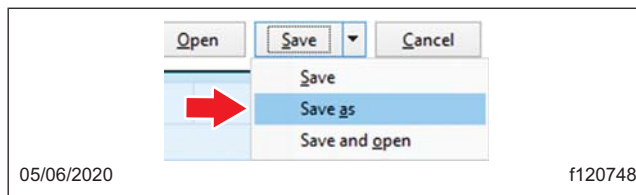

Fig. 17, Choosing Save As
19. Choose 'Save As' from the drop-down list shown in Fig. 17.